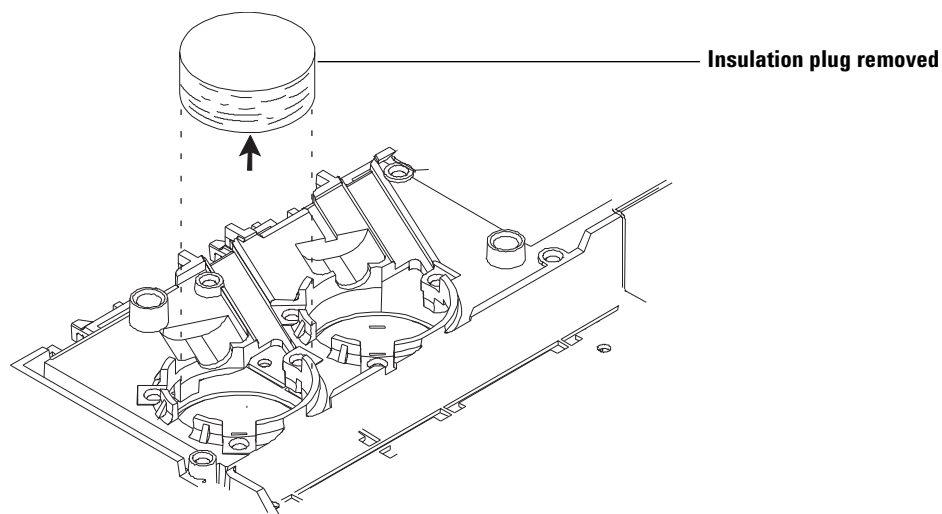

Figure 3 Insulation plug removal
- 2 Remove the insulation plug from the exposed inlet position. (See Figure 3.)